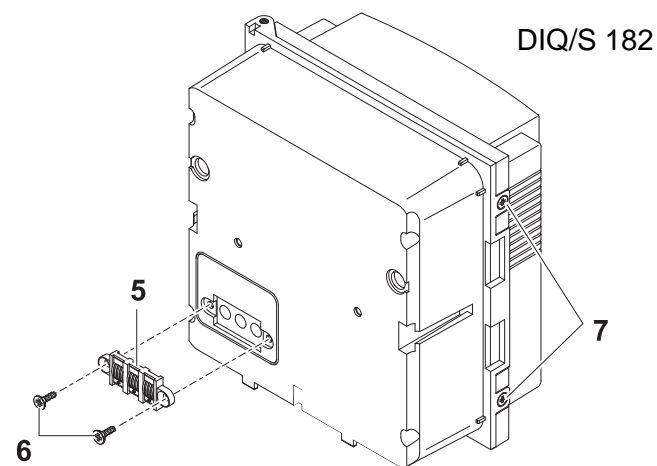

Fig. 3-2 Mounting the contact base (variant 1)
- 4 Attach the contact base (pos. 5 in Fig. 3-2) on the Universal Transmitter with the two plastic tapping screws (pos. 6).
- 5 On the Universal Transmitter, remove the two countersunk screws (pos. 7 in Fig. 3-2) and swing open the lid.